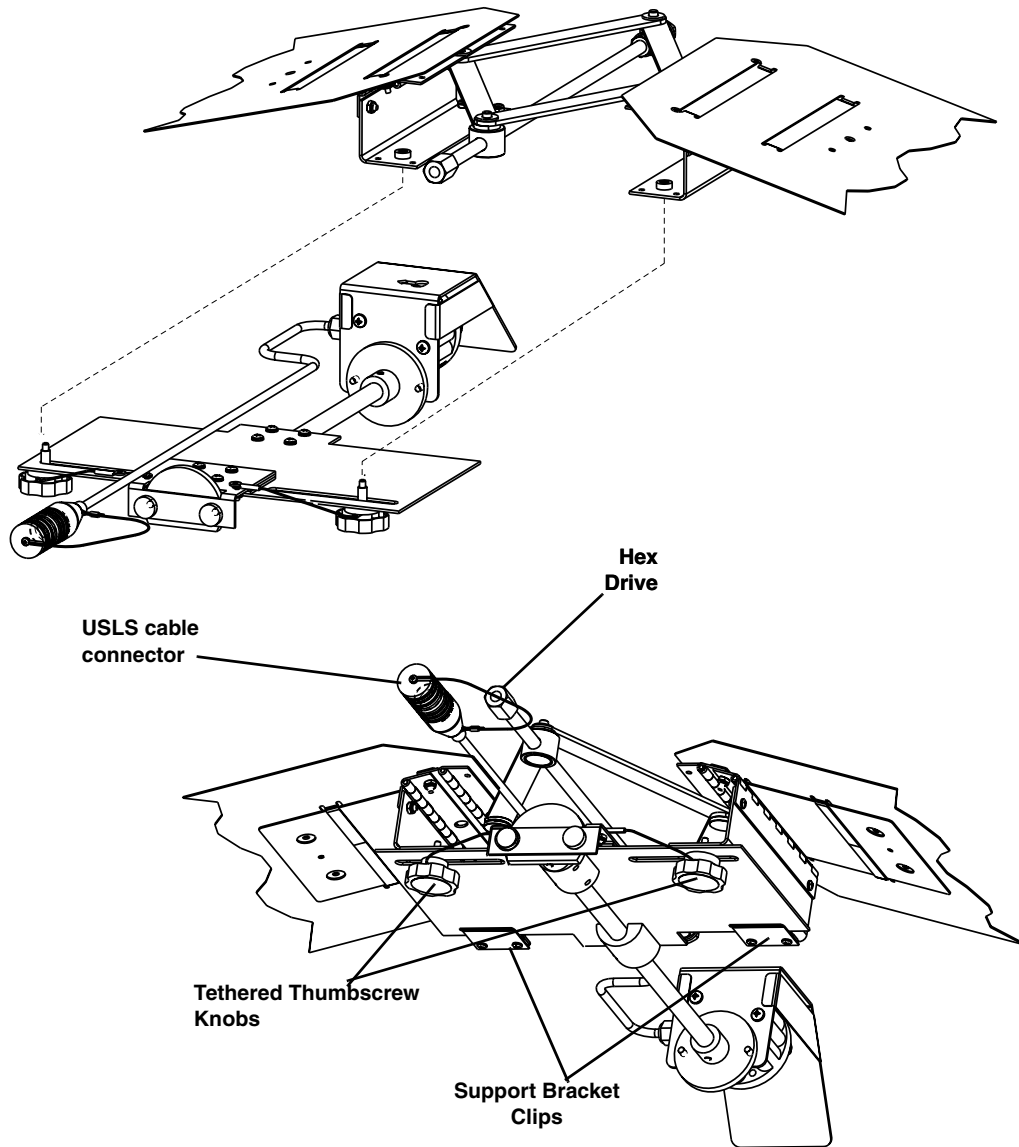

Figure 3-22 Installing the Sensor Mount Assembly on the Scissors Ring Assembly
5. Slide the Sensor Mount Assembly forward into the support bracket clips (Figure 3-22) with the sensor opposite to the hex drive.